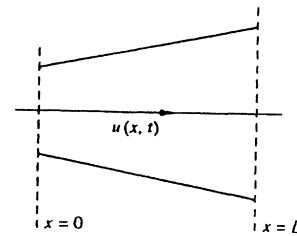

Fig. P4.8
**4.8** When a valve is opened, fluid flows in the expansion duct of Fig. P4.8 according to the approximation